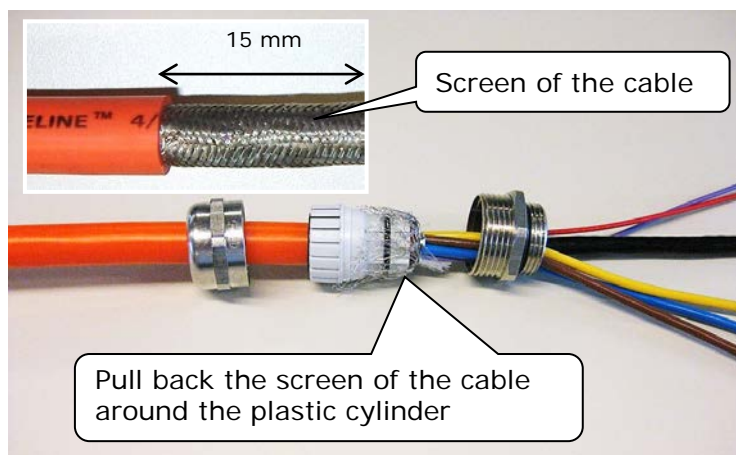

Figure 7 - EMC cable gland - screen
- o Put the EMC cable gland around the cable as shown below in Figure 7 - EMC cable gland - screen.